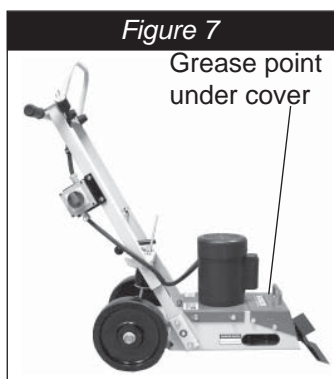

Figure 7
- Grease striker plate driven shaft bearing every 4 hours of use. (Figure 7 & 7A). Use Lubriplate #1444 High Temperature grease or equivalent.